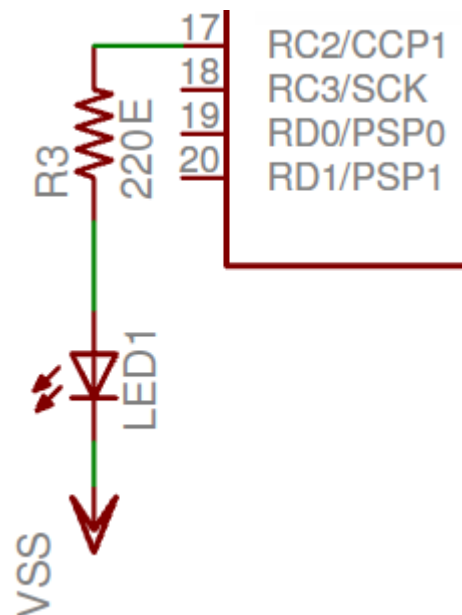

Figure 1
- Setup your PIC hardware. Although this guide is not about hardware, we feel we can't leave it out all together. To blink a led, you need a led connected, like shown in figure 1. Appendix A gives you the full schematics diagram of our evaluation hardware. Please look at [www.justanotherlanguage.org](http://www.justanotherlanguage.org) if you want more details on hardware or other blink-a-led related issues.